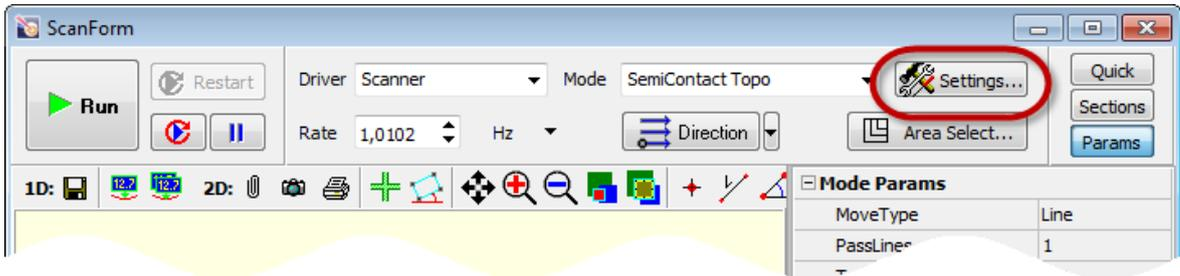

Fig. 8-12. Settings button
1. Open the **ScanSettings** window by clicking the  Settings... button in the Scanning window (Fig. 8-12).